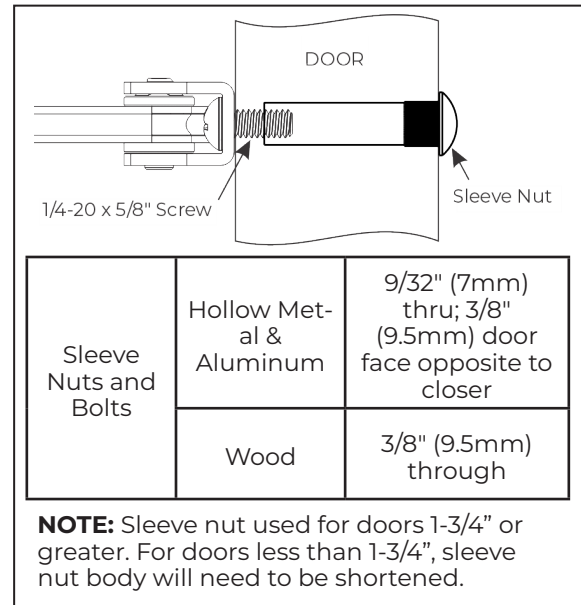

Figure 5
- c. **For sleeve nuts and bolts**, see illustration. (Figure 5)